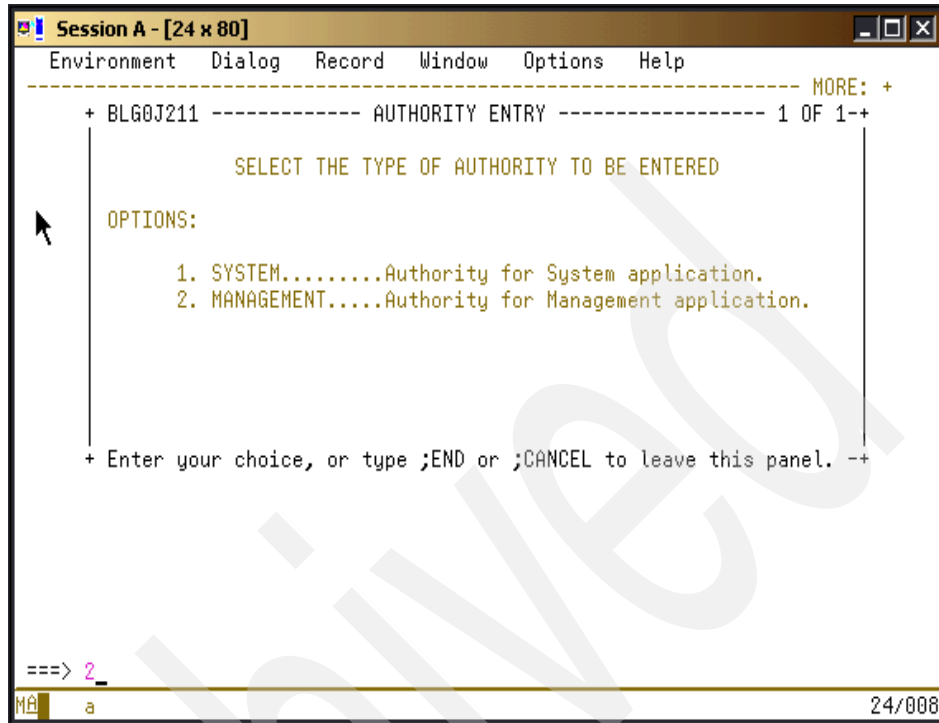

Figure 2-9 Authority Entry panel
5. Define the authorities for the TWSBATCH privilege class. Select option **2 - Class authority** and press Enter. The AUTHORITY ENTRY panel shown in Figure 2-9 on page 63 displays.